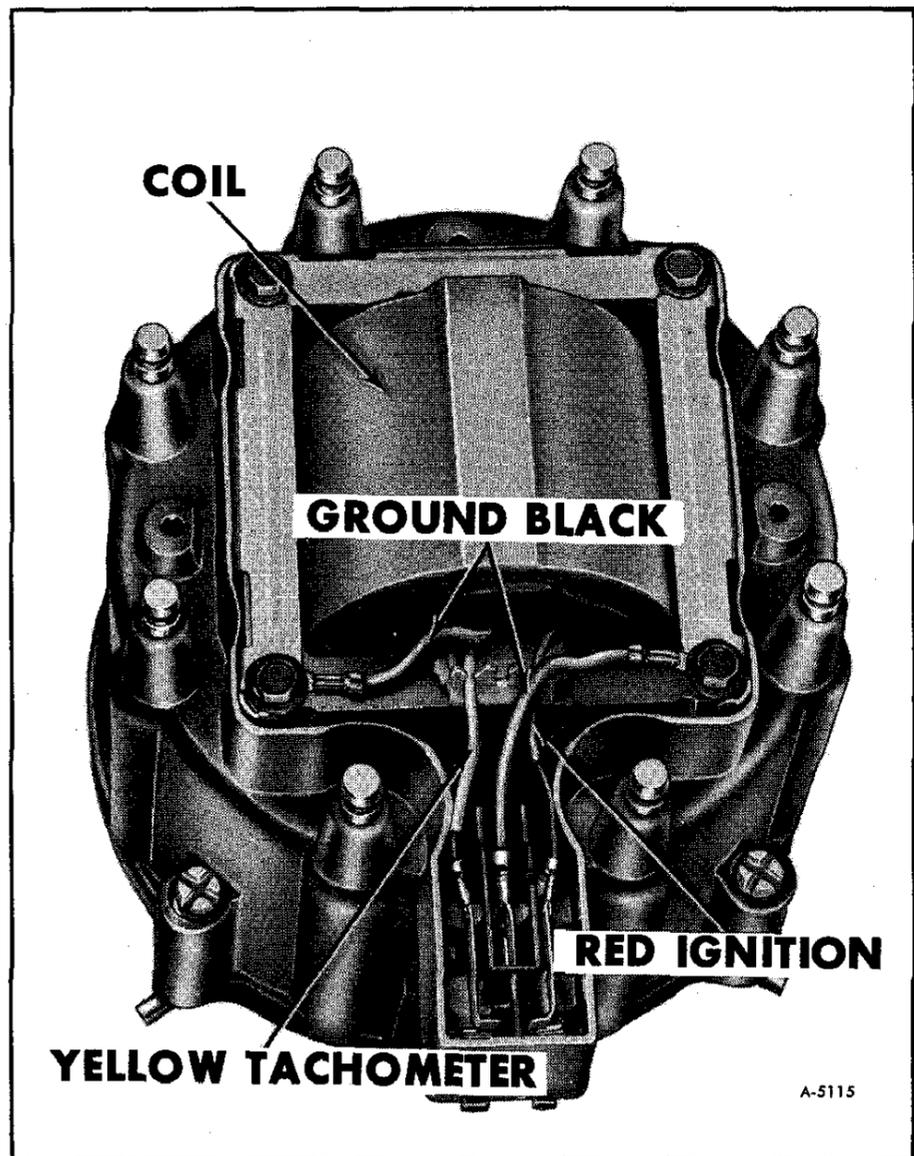

Figure 15—Coil Replacement
3. Push coil lead wires into connector on side of cap (figure 15).